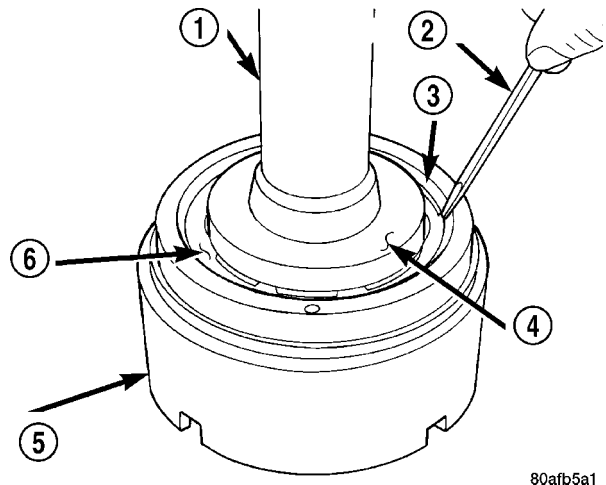

Fig. 209 Install Snap Ring
(18) Using Tool 6057 and an arbor press, compress return OD/Reverse piston return spring just enough to remove snap ring (Fig. 209).